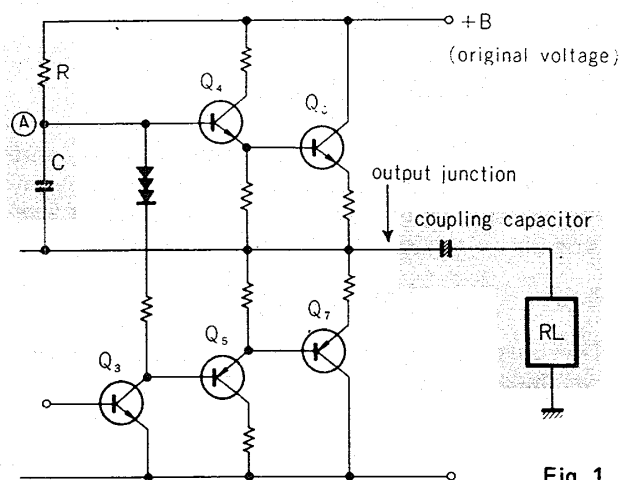

Fig. 1
A common drawback of conventional SEPP amplifier circuits is the occurrence of pulse noise when the power is turned on. The cause of this noise is the timing of the DC voltage distribution through the junctions in the circuit. The most important junction in this respect is the inner side of the output coupling capacitor. Fig. 1 shows a simplified, typical SEPP output stage. When the power is turned on, the original +B voltage surges immediately, and this voltage simultaneously appears, through R, as point (A). The time constant of this C/R network cannot be made as large as desired because it is part of the signal path. Therefore, voltage +B appears almost instantly at the base of Q₄, causing a sudden output coupling capacitor to the speaker. The common drawback just described about conventional SEPP amplifier circuits causes the starting pulse noise.